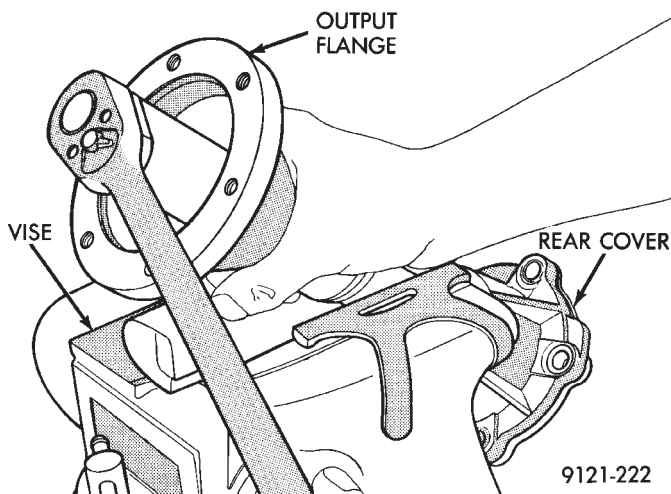

Fig. 8 Output Flange Nut
- (6) Remove output flange nut (Fig. 8).